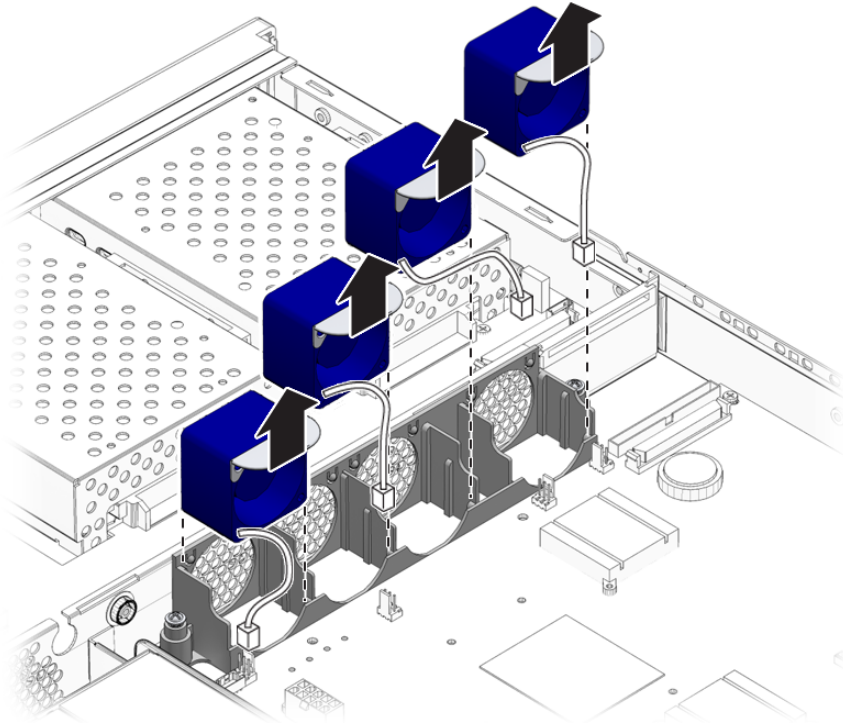

FIGURE 1-12 Removing Fans
4. Lift the fan out of the chassis (FIGURE 1-12).